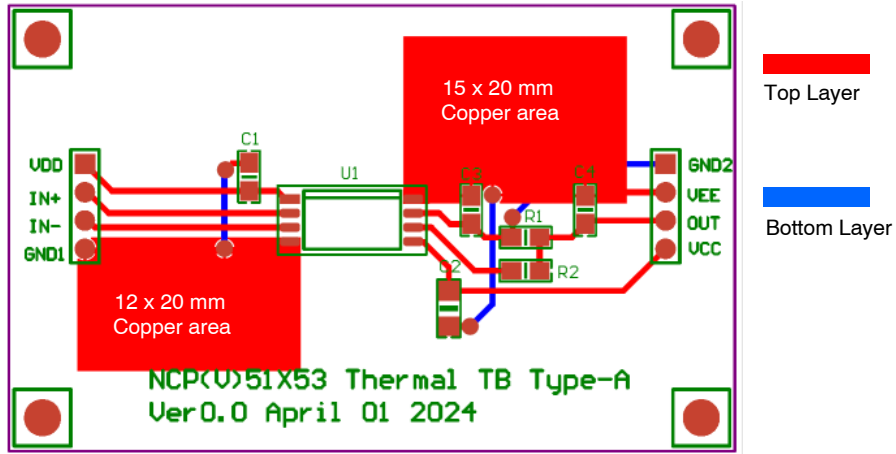

Figure 4. Reference Layout for the Type-A
7. As specified for a reference layout shown in Figure 4. The DUT is mounted on a 65 x 40 x 1.6 mm FR4 substrate with an additional heat spreading copper of 240 mm²/300 mm² (Primary/Secondary). The copper thickness is 1 oz and test conditions is under natural convection or zero air flow.